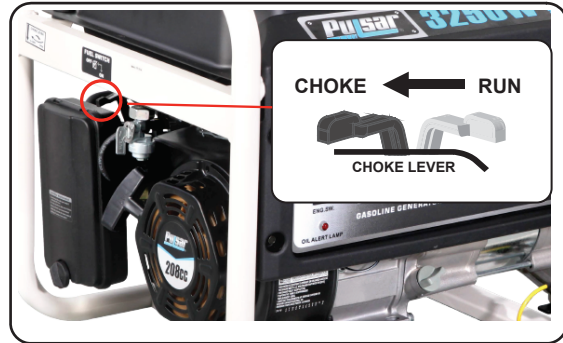

Fig 5
- Slide the choke lever to the “Choke” position. (See fig 5) **SKIP THIS IF THE ENGINE IS WARM OR HOT.**